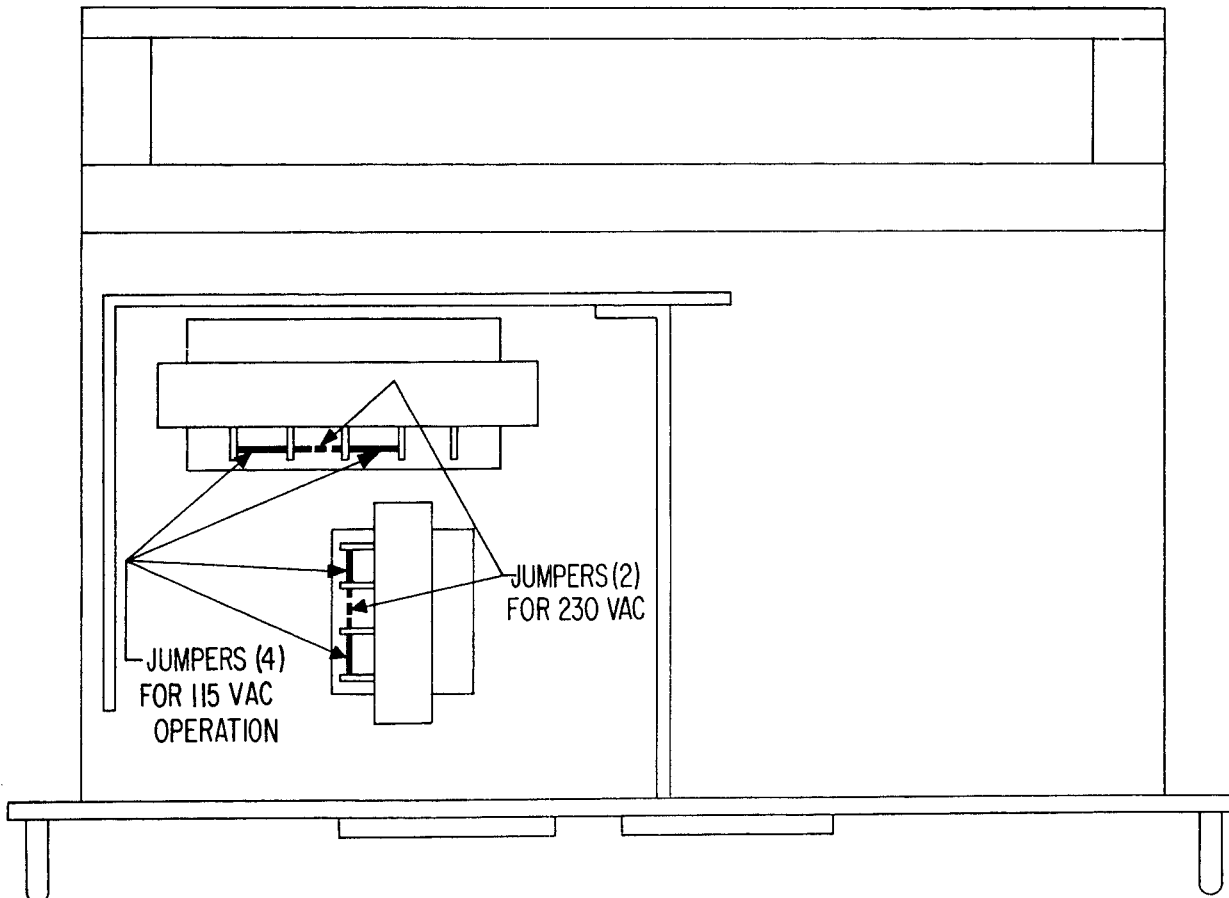

FIG. 2-1 TRANSFORMER CONNECTION FOR 115V A-C AND 230V A-C
2-6 This power supply is normally supplied for operation on a single phase, nominal 115V a-c line. For conversion to 230V a-c line operation, refer to FIG. 2-1. For a-c input current requirements, see TABLE 1-1.
- a) Connect power supply to 115V a-c line. Refer to FIG. 2-1 for 230V line operation.